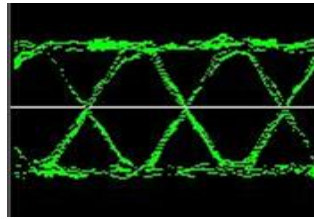

Figure 252: "Clean" Eye Pattern
- The eye pattern NEVER looks "clean," as in Figure 252